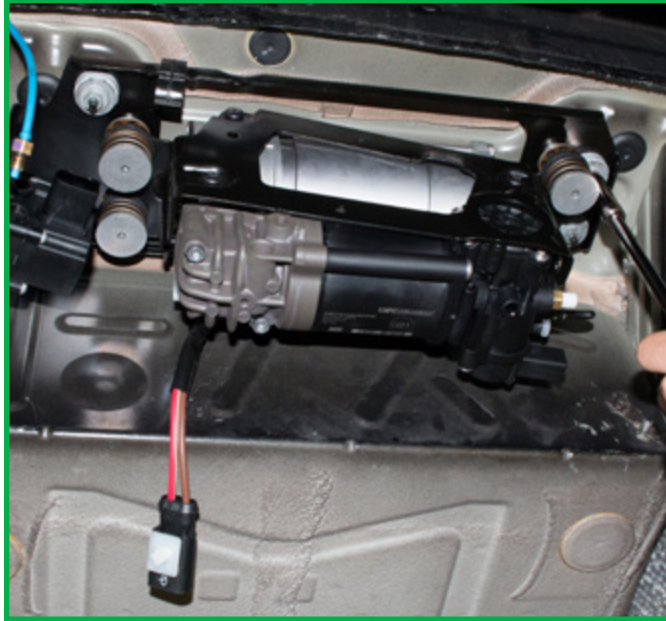

FIGURE 18
1. Install the air compressor assembly into the vehicle using the factory mounting hardware. (Figure 18)